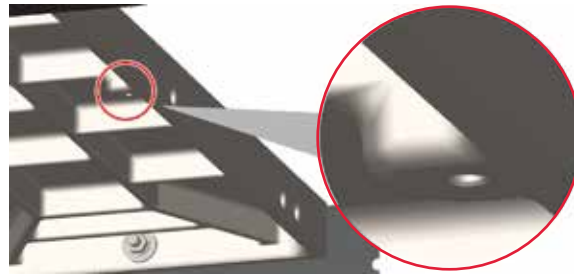

Fig. 7
**Extension Table Adjustment Bracket, 36 and 52 Inch Fence Systems:** If you have a wing that has the threaded hole as shown in Fig. 7, use the adjustment bracket. If you have a wing that does **not** have the threaded hole, use the supplemental hardware--skip to the *Supplemental Mounting Kit* section on the next page. The extension table works with either the adjustment bracket or the supplemental mounting kit.
Tilt the extension table slightly so that the adjustment bracket can fit under the edge of the extension wing. Position the extension table so that the end of the adjustment screw aligns with the corresponding threaded hole (Fig. 7) in the bottom of the extension wing. With the weight of the extension table still supported, turn the adjustment screw with a 5 mm hex key until the extension table is level and flush with the extension wing.